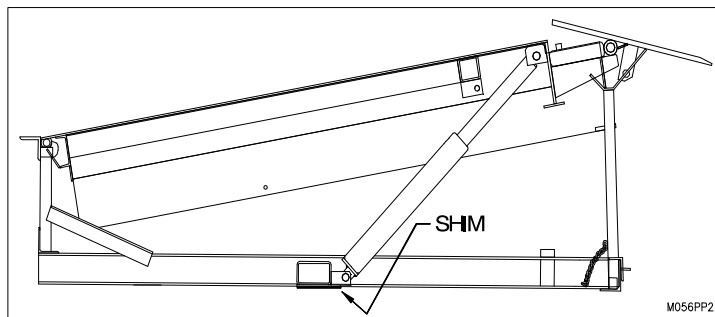

Figure 20: Hydraulic Dock Roll-Off Stop Lift Cylinder Shim
8. ☐ Shim under hydraulic lift cylinder lower clevis plate and weld securely in place. ("Figure 20: Hydraulic Dock Roll-Off Stop Lift Cylinder Shim" on page 15)